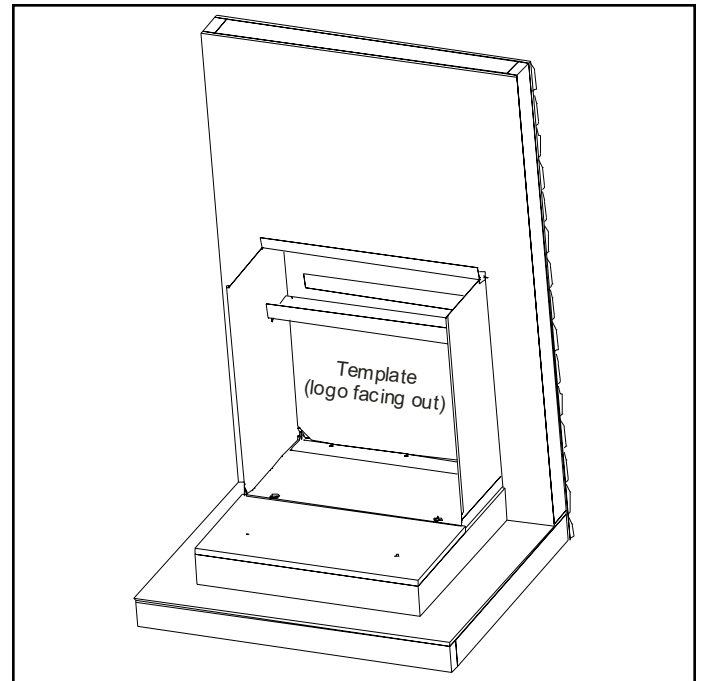

Figure 11. Inserting Template
- Insert the template through the assembled wall sleeve into the wall opening (Figure 11). The MagicPak® logo should face the outside. Once the template is fully inserted, check the wall sleeve for square installation. Shim wall sleeve to wall, if necessary.
- After the caulking and flashing has been completed, reinsert the template through the assembled wall sleeve into the wall opening (Figure 11). The MagicPak® logo should face the outside. The template must be removed prior to louver grille installation.